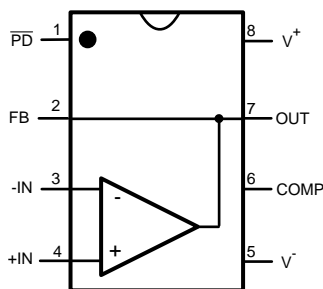

Figure 4. 8-Pin LLP Pinout Diagram
The LMH6629 (LLP-8 package only) has some additional features to allow maximum flexibility. As shown in Figure 4 there are provisions for low-power shutdown and two internal compensation settings, which are further discussed below under the COMPENSATION heading. Also provided is a feedback (FB) pin which allows the placement of the feedback resistor directly adjacent to the inverting input (IN-) pin. This pin simplifies printed circuit board layout and minimizes the possibility of unwanted interaction between the feedback path and other circuit elements.